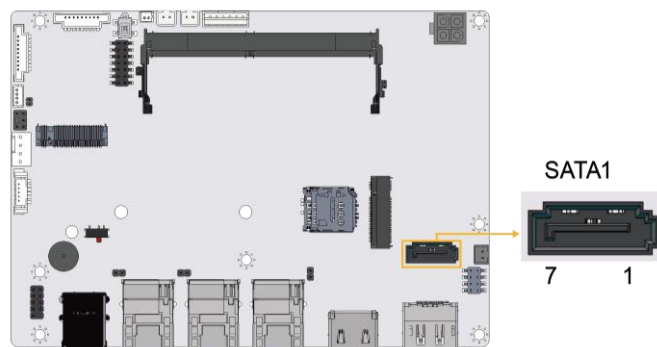

Figure 4-9: SATA 6Gb/s Drive Connectors Location
- CN Location:** See **Figure 4-9**